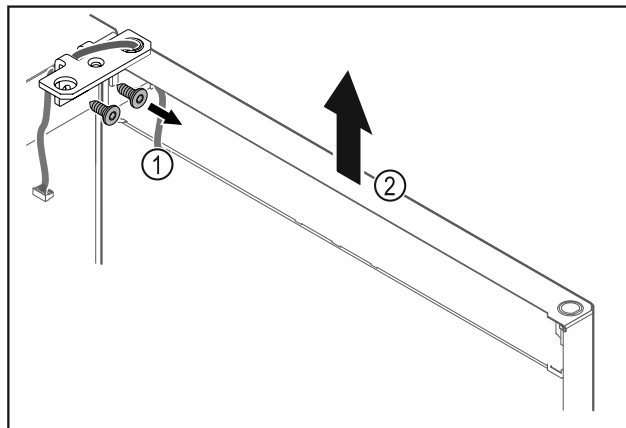

Fig. 21
- ▶ Unscrew the hinge Fig. 21 (1).
- ▶ Lift the door with the hinge straight up by Fig. 21 (2) roughly 200 mm and take it off.